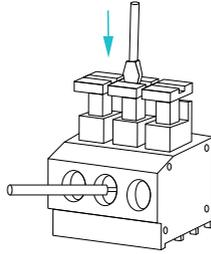

Figure 3 AcuTEMS OA Push Button Terminal Block
- To remove the wire, push in the button to open the spring, allowing the wire to be pulled out. Refer to Figure 3 for details.